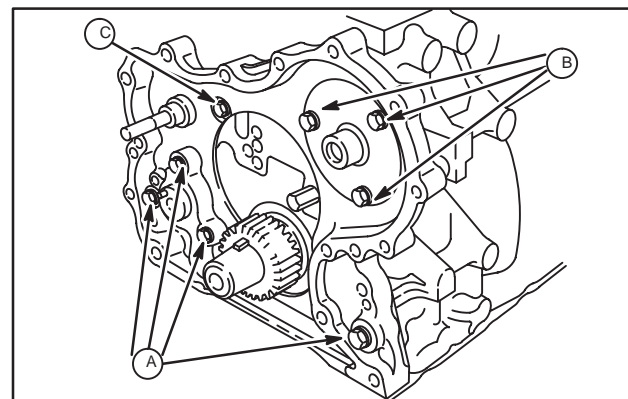

Fig. 14 – Installing Gear Case
2. Install timing gear case with new gasket. Install camshaft retainer, Fig. 14.